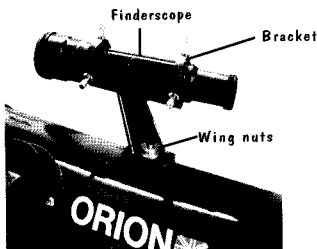

Fig.12 Finderscope located in its bracket on the tube.
8. The telescope tube should now be fully secure in the cradles on the mount. Now locate the finderscope and bracket and assemble them together. Make sure the finderscope is equally spaced in the bracket. Above the focus mount on the telescope you will find two wing nuts with washers (**fig.12**). Unscrew them and place the bracket with the finderscope on the screws and tighten back up.